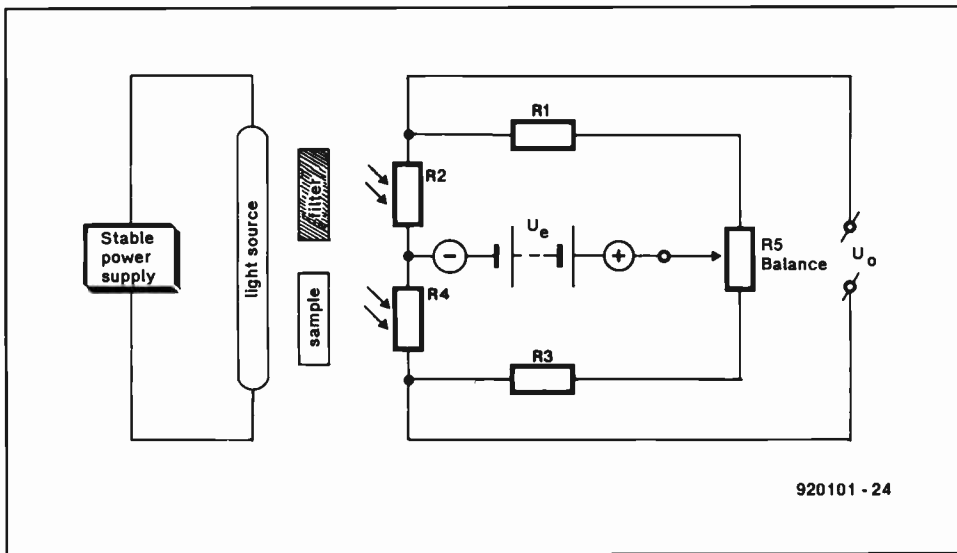

Fig. 8. Photocolorimeter circuit.
Photocolorimetry is basically a comparison measurement technique in which light (or IR and UV depending on the purpose of the instrument) transmission over two paths is compared. Figure 8 shows the
The basic circuit is the Wheatstone bridge, and it uses a pair of photoresistor cells (R2 and R4) as the light sensors. Potentiometer R5 in Fig. 8 is used as a bridge balance control, and it is adjusted for zero output ($U_o = 0$) when the same light shines on both photoresistors. The output voltage from the bridge (U_o) will be zero when the two legs of the bridge are balanced. In other words, U_o is zero when $R_1/R_2 = R_3/R_4$. It is not necessary for the resistor elements to be equal (although that is often the case), only that their resistance ratios be equal. Thus, a 500 k Ω /50 k Ω ratio for R1/R2 will produce zero output voltage when $R_3/R_4 = 100$ k Ω /10 k Ω .
(1). Blood O₂ Level. A once widely used method for measuring blood oxygen level is based on the basic colorimeter of Fig. 8. It works because the 'redness' of human blood is a measure of its oxygenation. This instrument is nulled with neither standard filter cell nor blood in the light path; i.e., when white or red light shines on both cells. A standard colour 800 nanometer² filter is introduced be-